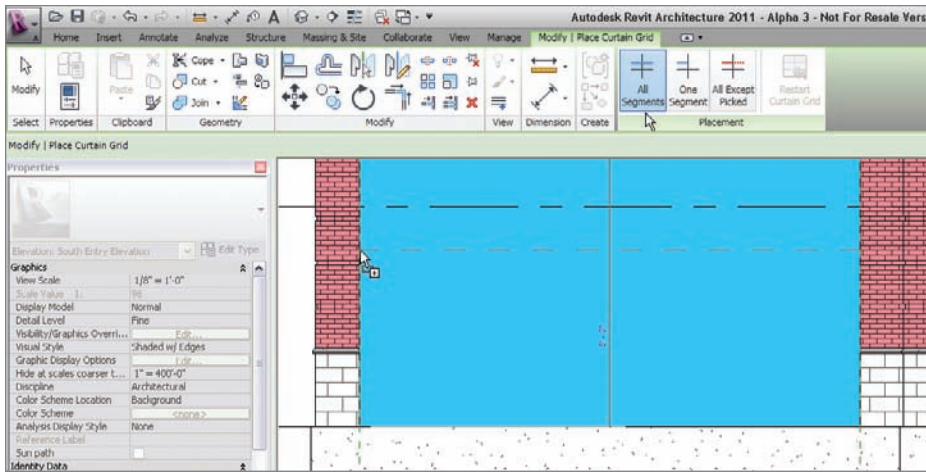

FIGURE 16.31 Picking a point 8'-0" up from the base of the wall
2. On the Modify | Place Curtain Grid tab, click the All Segments button, as shown in Figure 16.31.
3. Move your cursor up the left side of the curtain wall and pick a horizontal point that is 8'-0" up from the base of the wall, as shown in Figure 16.31.